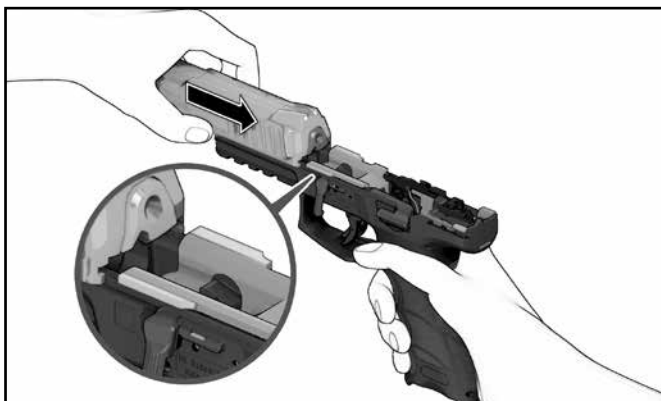

Figure 27 — Mounting the slide on the frame
6. Mount the slide onto the frame, ensuring that the recoil spring is centered underneath the barrel, and that the rails on the frame are inserted into the grooves on the bottom of the slide (see Figure 27).